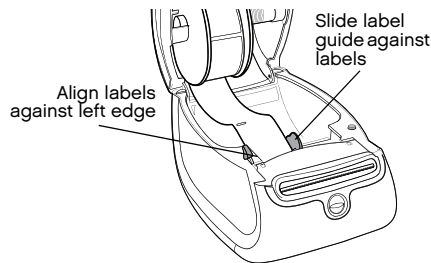

Figure 8
- The labels must be loaded with the left edge of the label inserted against the left edge of the label feed slot. See Figure 8.
- 7 Align the left edge of the label with the left edge of the label feed slot and insert the label into the slot. See Figure 8.
- 8 Slide the label guide to the left until the label guide aligns with the right edge of the label. See Figure 8. Make sure that the label guide does not pinch the label.